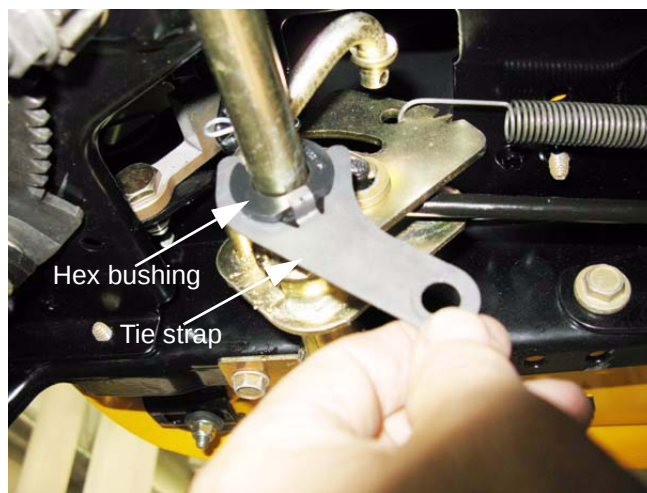

Figure 6.34
3. Slip the tie strap off of the "cobra-head" arm, and pivot it downward. See Figure 6.34.